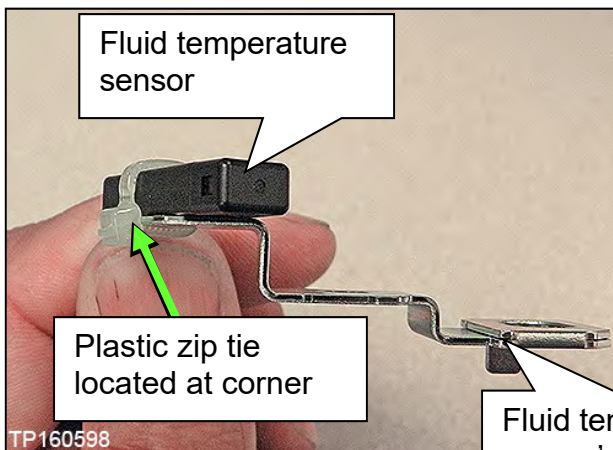
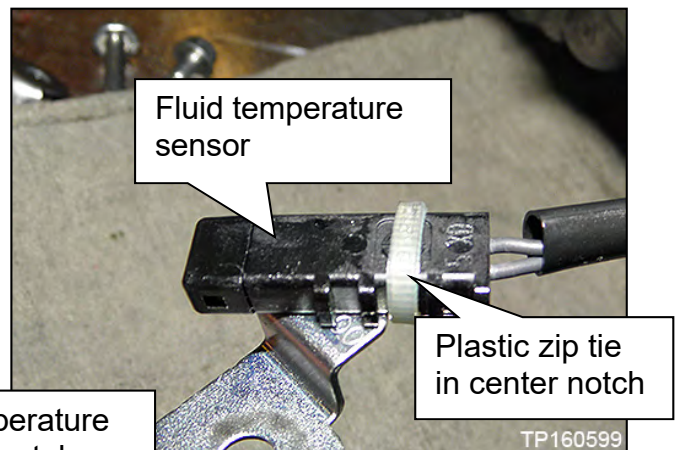

Figure 178
Figure 179
- a. Cut the old plastic zip tie with an appropriate tool to remove the fluid temperature sensor's metal bracket from the terminal harness assembly (Figure 178 and Figure 179).
- Locate the plastic zip tie at the center notch of three notches on the fluid temperature sensor (Figure 179).